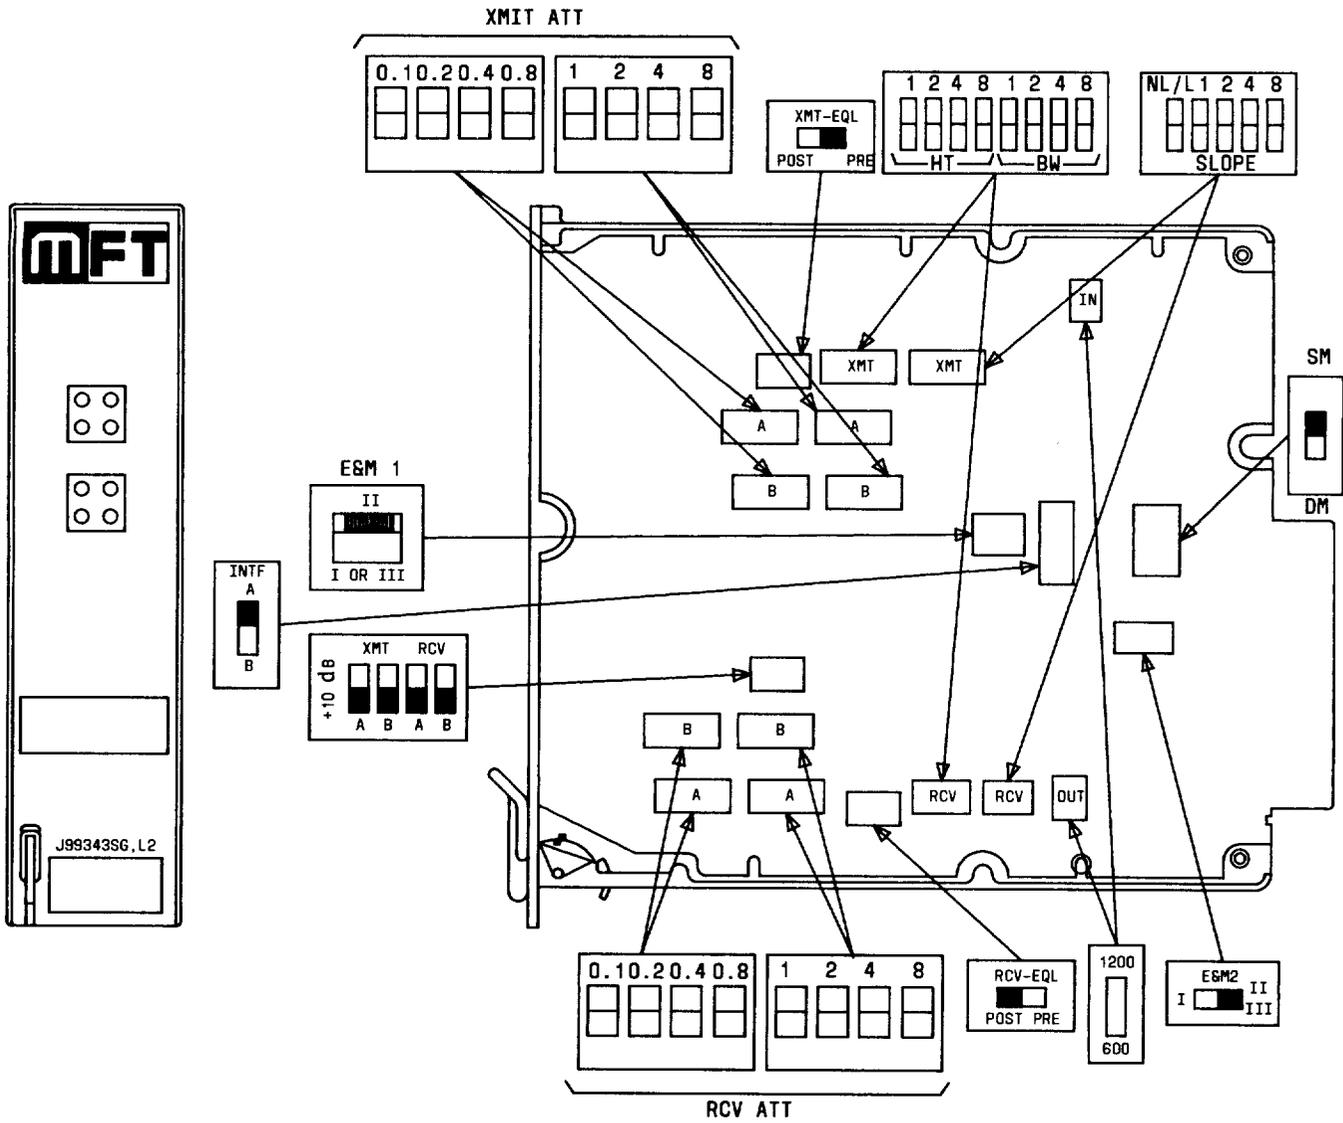

Fig. 2.1—Component Layout of the J99343SG, L2 CFU
2.003 Add new Fig. 2.1 shown in this addendum.